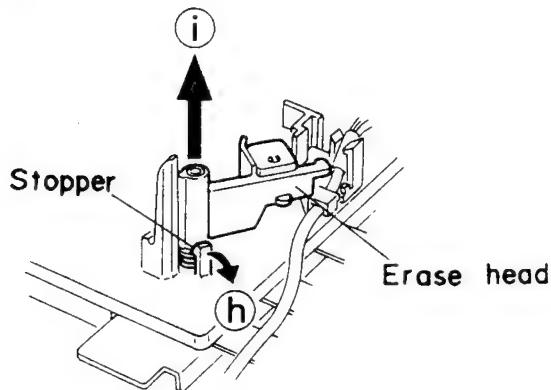

Fig. 5-22
■ Removing the Record/Playback head & Erase head (See Figs. 5-22, 23)
1. Remove two screws (③, ④) retaining the Record/Playback head.
14. Pull out all of the three stages of CD tray assembly in the arrow direction (E) until these stages stop (See Fig. 5-22).